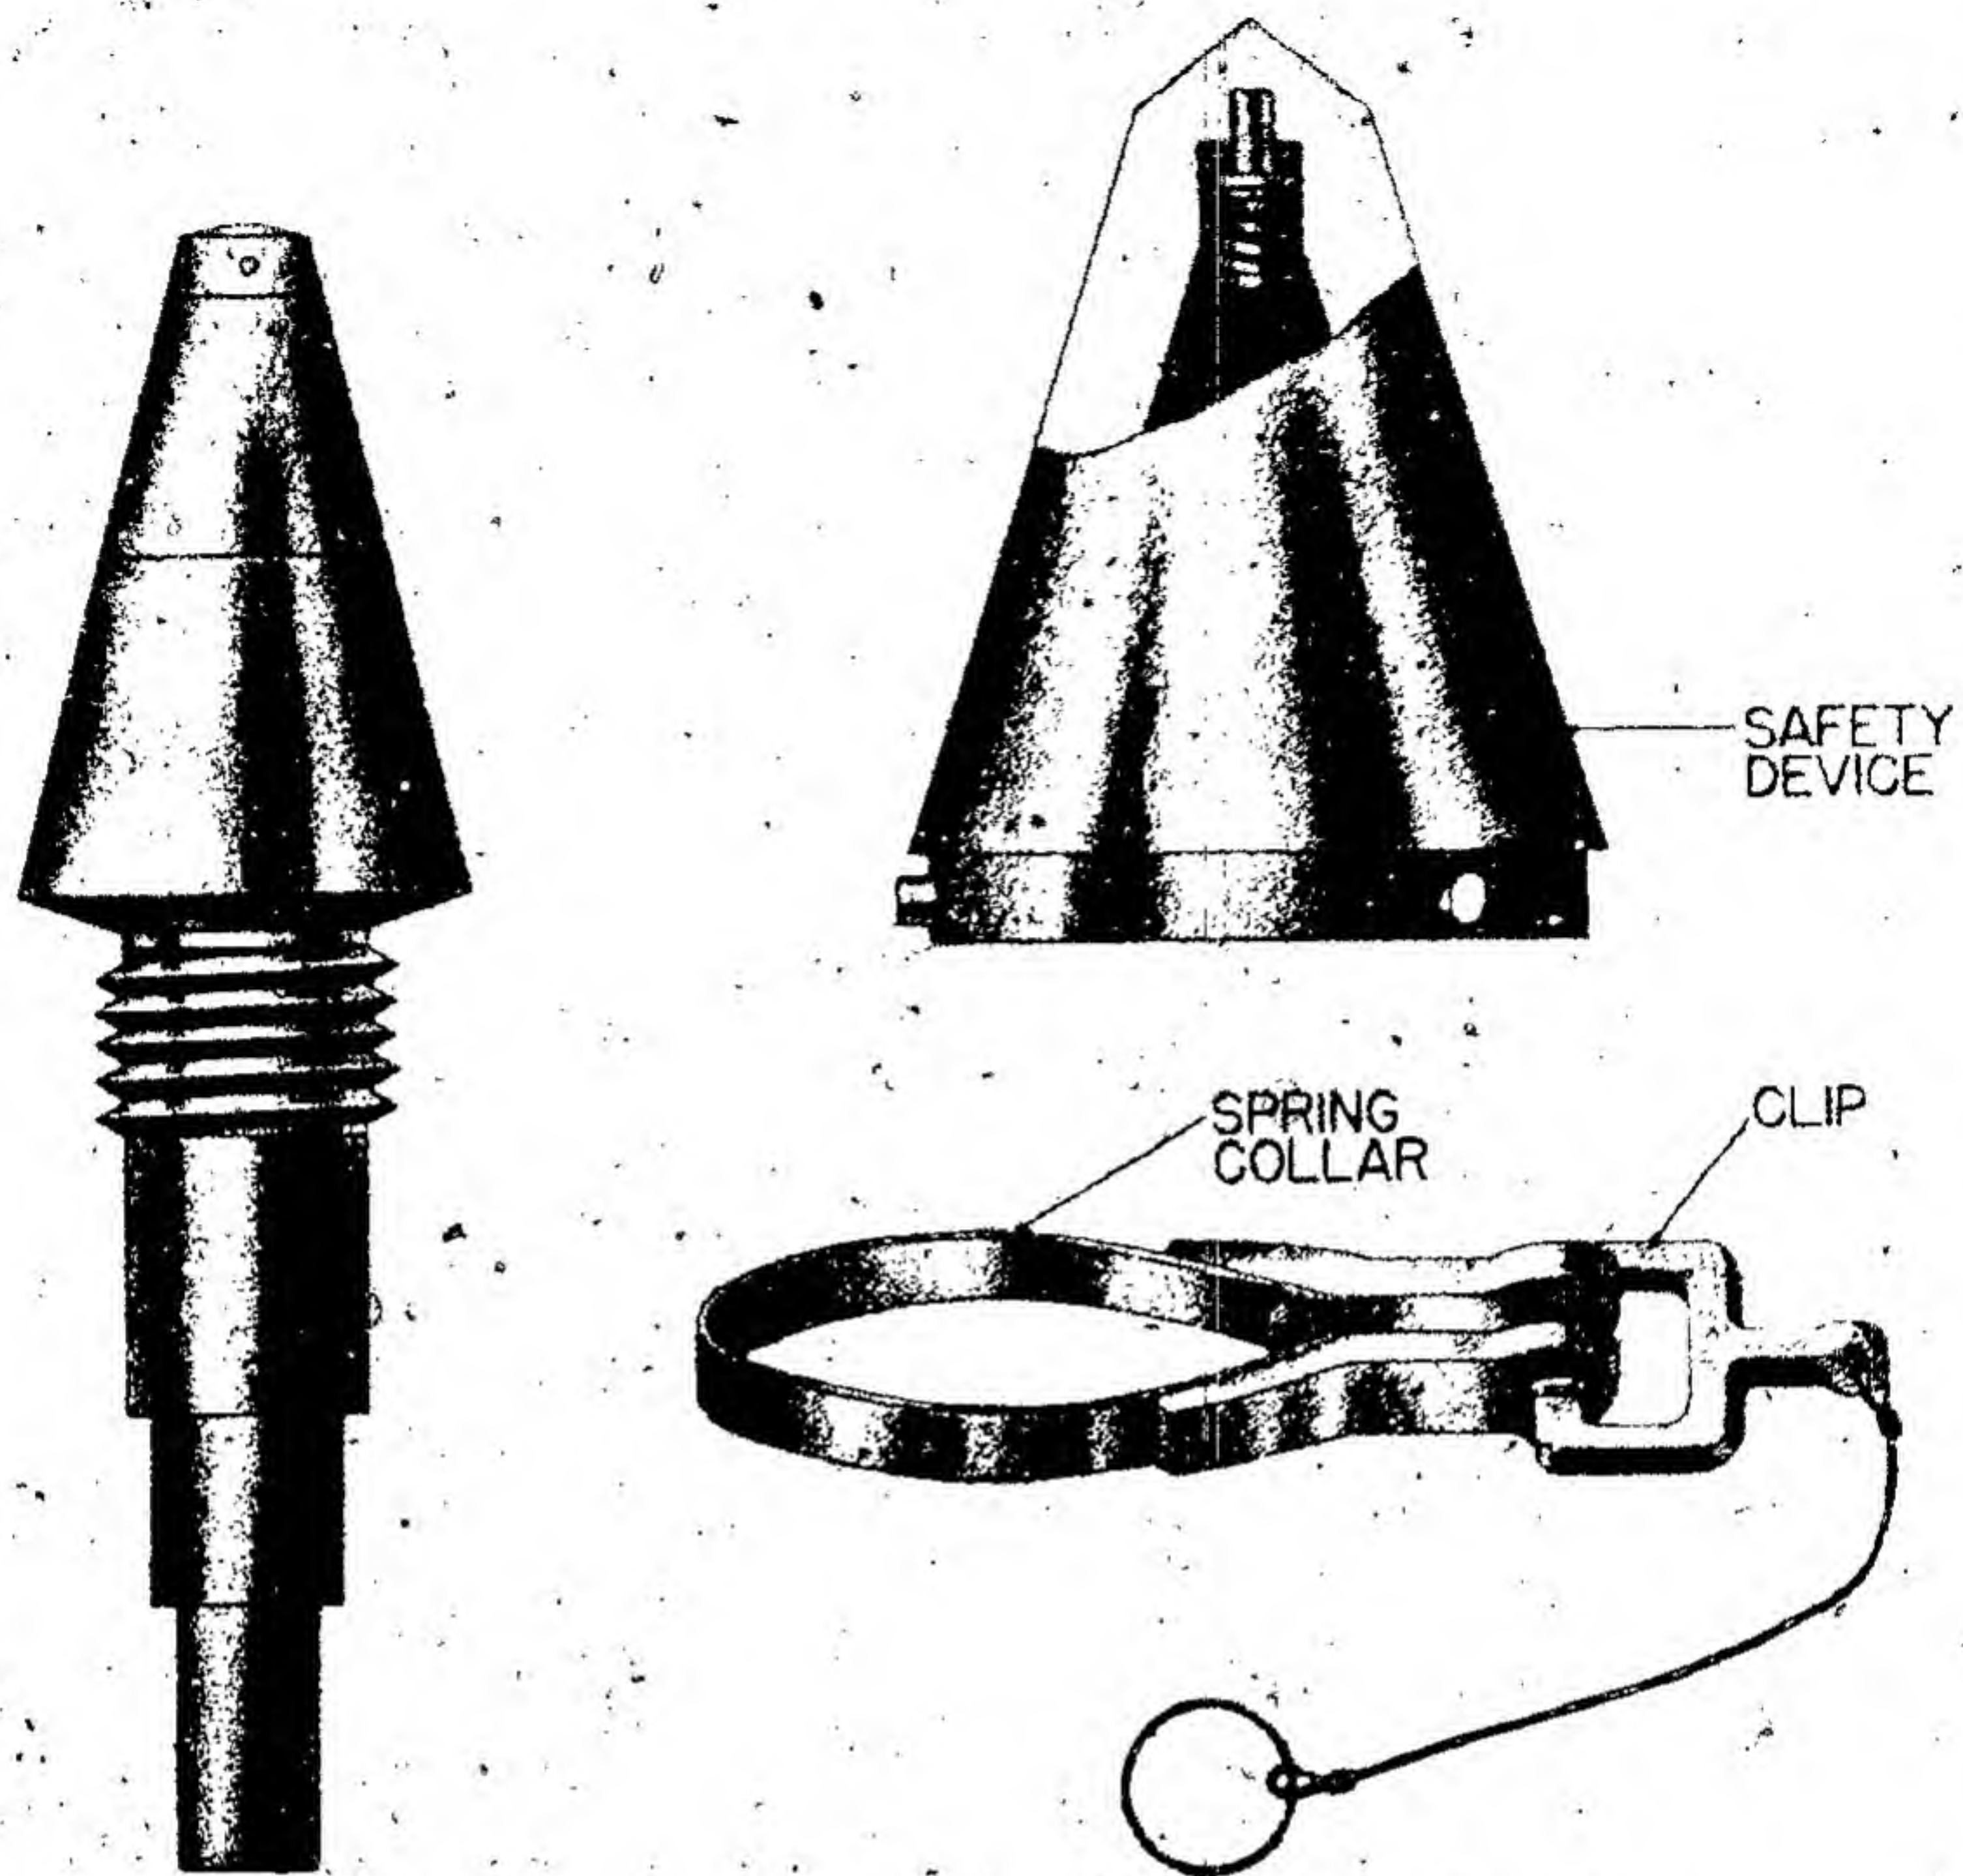

Figure 266 – Nose Impact Fuze R.S.A. Model 1930
3. **Safety device for use with the R. S. A. Fuze 30/45, Model 1930:** This is shown in figure 266. It consists of a single piece of bronzed steel in the shape of a hood. Inside of the apex of the hood is a spring which holds the head of the fuze away from the hood, and assists in the removal of the hood after the bomb is released. The hood is held in the head of the fuze by three spring-loaded pins, which pass through the lower portion of the wall of the hood, and are held in position by a spring collar. When the collar is closed by the clip, the pins are pressed into a groove on an adapter, which screws into the bomb. When the bomb is released, the clip is pulled away, the three pins are free to move, and, with the assistance of the spring, the safety hood falls away from the path of the bomb.